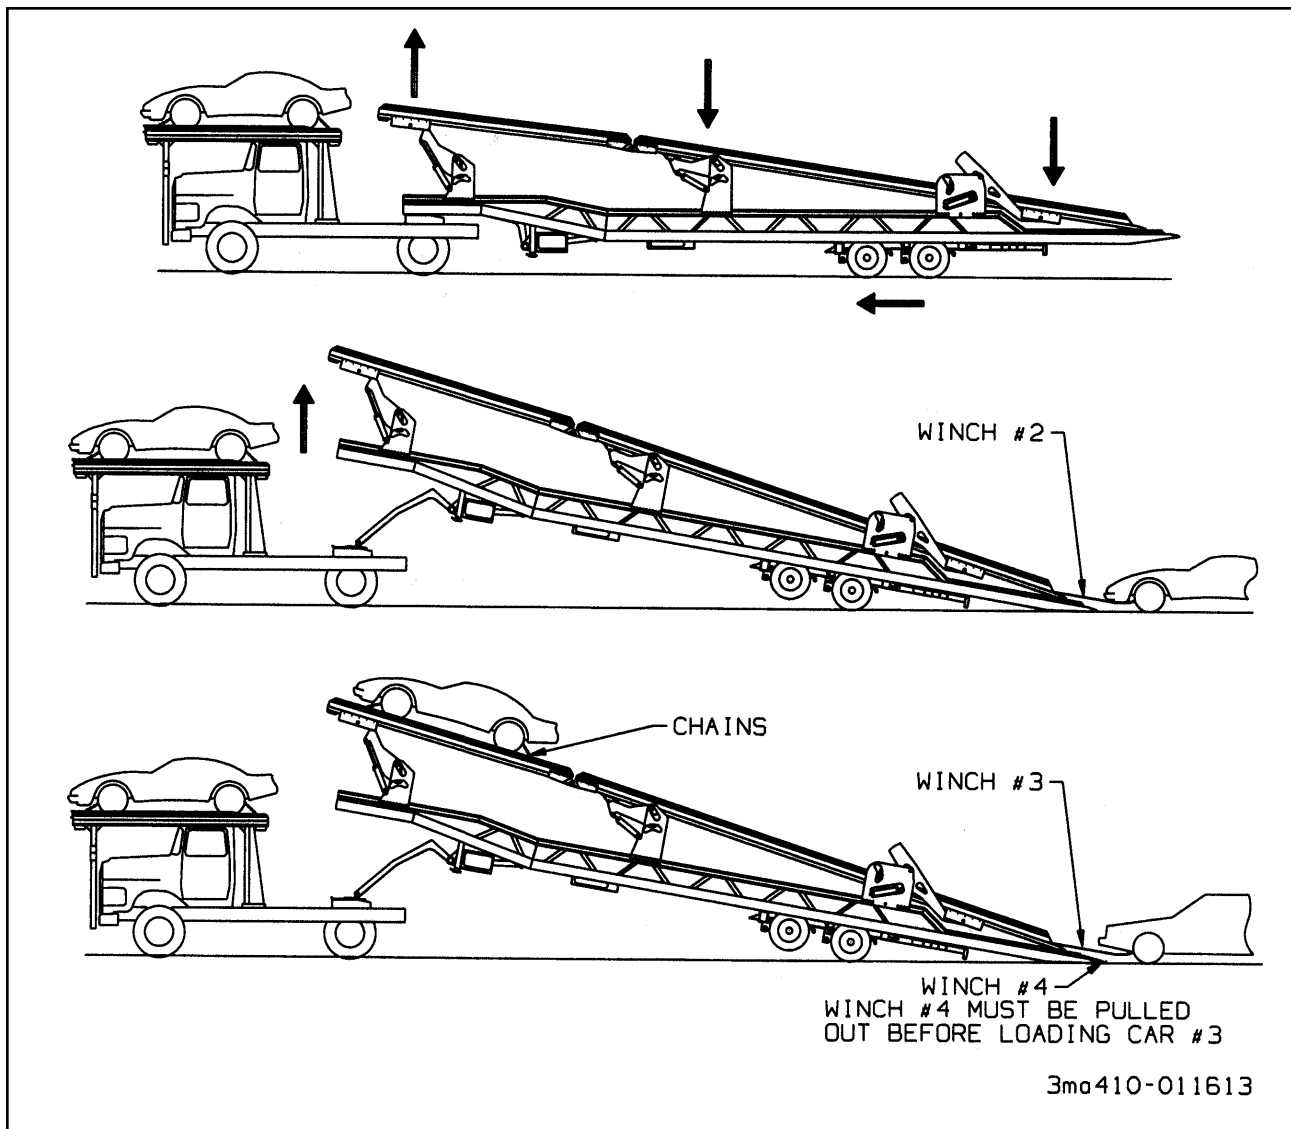

Figure 3-9 Loading the Upper Deck
- 3-15.2 Unlock and lower the middle arm as far down as it will go (See Figure 3-9).